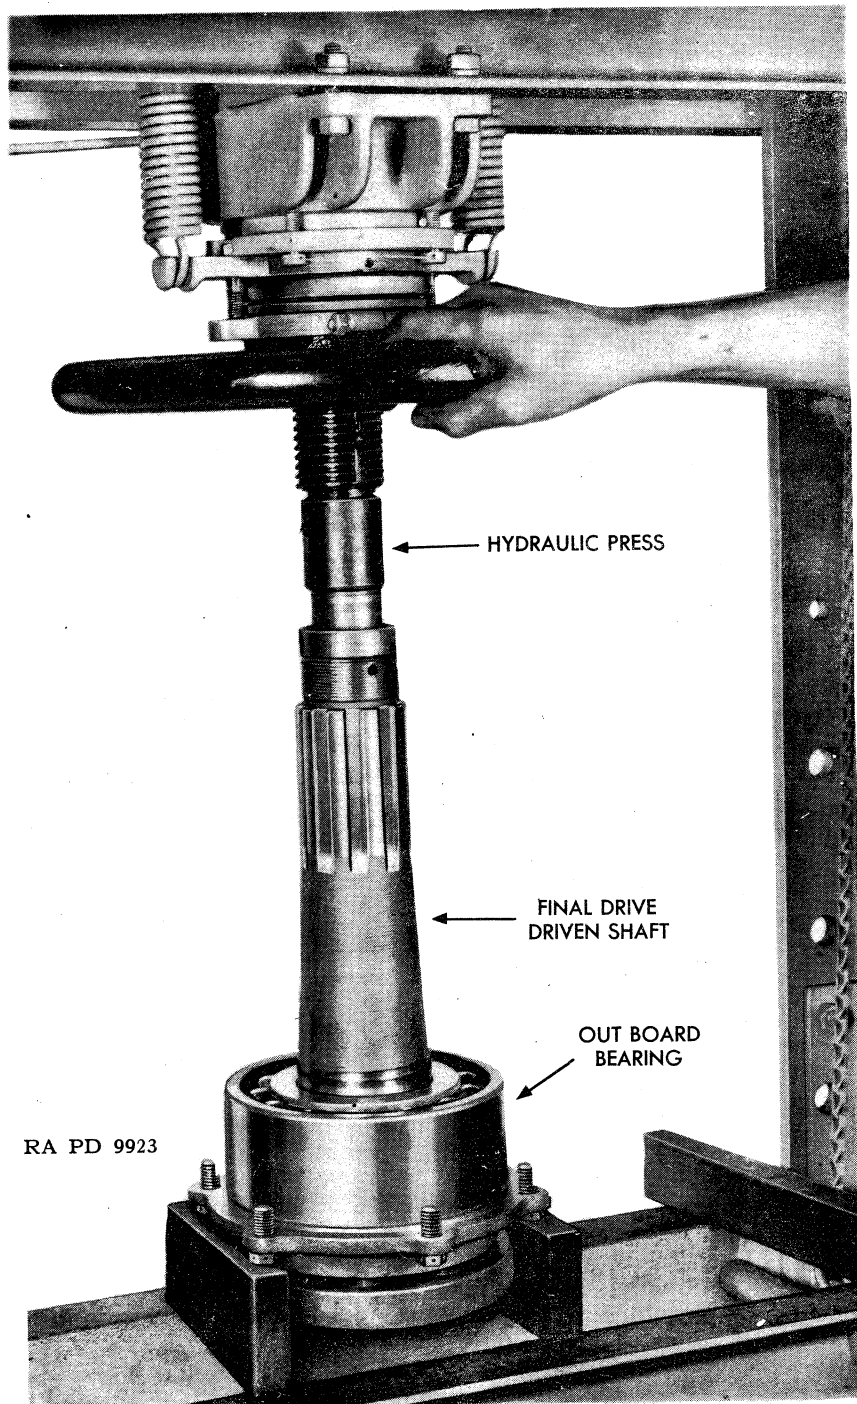

FIGURE 81—Removal of outboard bearing—final drive driven shaft.
(4) Remove outer bearing and cover from driven shaft (fig. 81).
Lift off SPACER (C63229). Place shaft assembly in arbor press with cover supported by bars as shown in figure 81. Press shaft out of BEARING (A167432) and COVER (B132935).